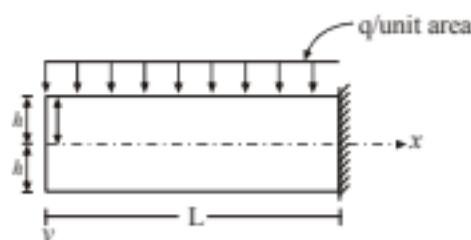

Fig.2
7. A cantilever of length  $L$  and depth  $2h$  is in a state of plane stress. The cantilever is of unit thickness, is rigidly supported at the end  $x = L$  and is loaded as shown in fig. 2.